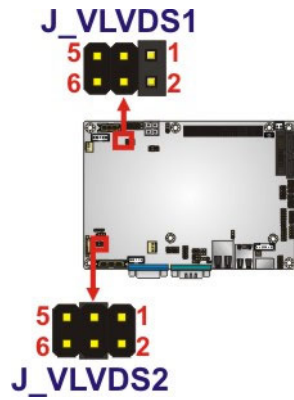

Figure 4-12: LVDS Voltage Selection Jumper Locations
Jumper Location:	See Figure 4-12
- Jumper Location:** See Figure 4-12